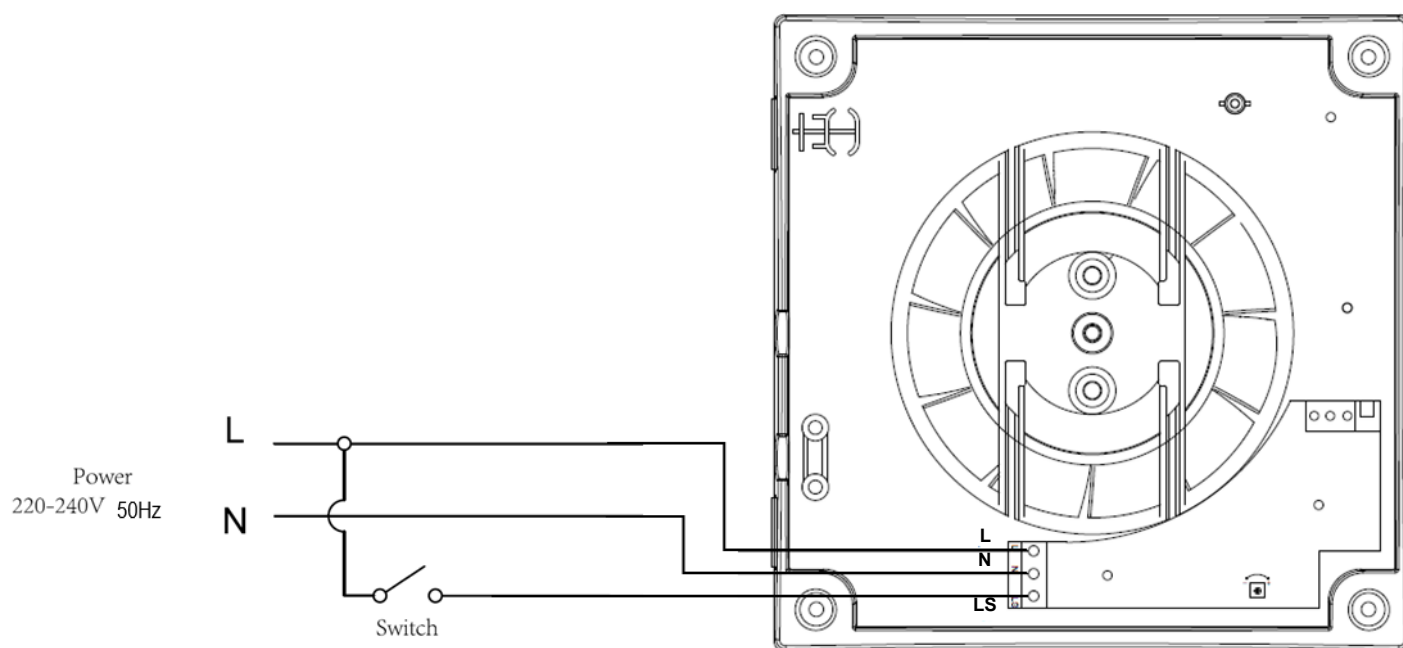

Fig. 4
10. Make the wiring connection from the exhaust terminal fan to the mains power supply and wall switch in accordance with the provided wiring diagram. (Fig.4)